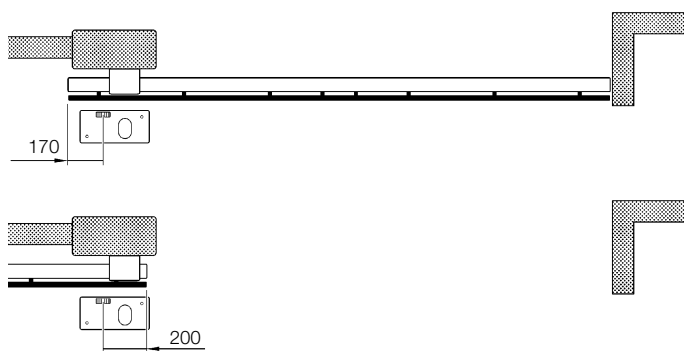
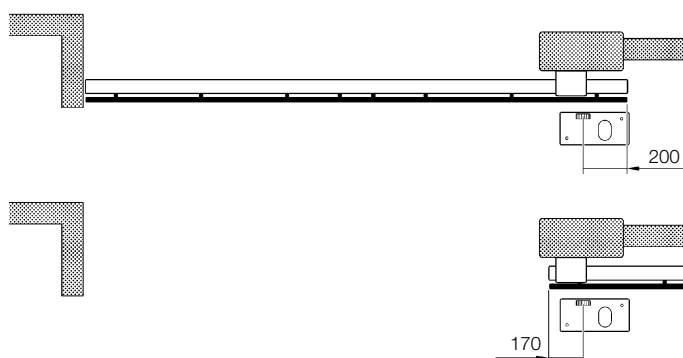

Figure 13
Figure 14
- To mount the limit switch brackets, the rack (and therefore the gate) must project from the axis of the pinion by the distances indicated in figure 13 (LT opening) and figure 14 (RT opening).
13 Fully open the gate and place the first piece of the rack on the pinion so that it projects from the axis of the pinion by the distance indicated in figure 13 or figure 14, that is, the space required for the limit switch brackets.